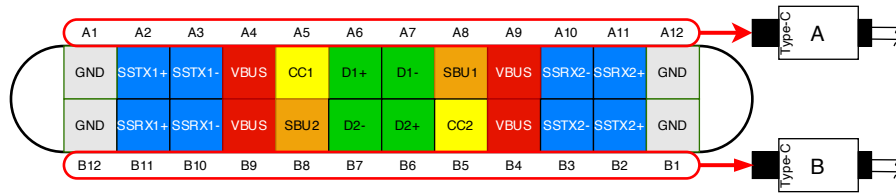

Figure 16: USB-C Connector Detail
- Figure 16 illustrates which CC line is used for Power Delivery negotiation in subsequent application notes and diagrams that specify orientation. For example, diagrams showing connectors with “A” use CC1 for PD communication.